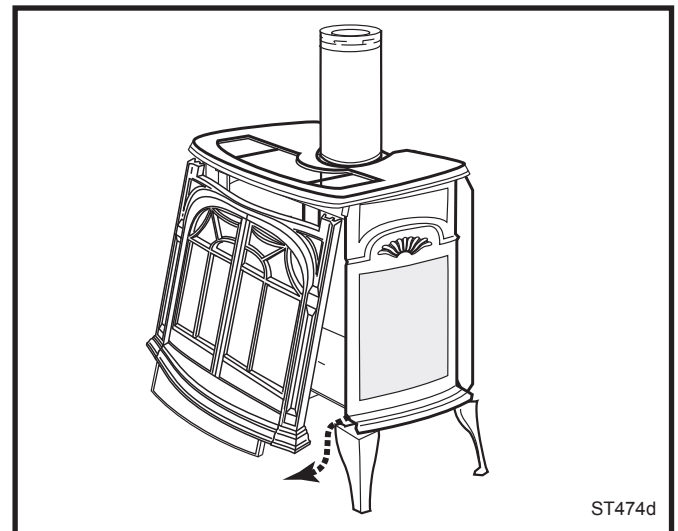

Fig. 35 Remove the Stove Front.
1. Remove stove front. Lift stove front up and then swing bottom out and away to disengage from the stove body. (Page 19, Fig. 35)
2. Lift the Stove Front up and then swing the bottom out to disengage it from the heater shell. (Fig. 35)
1. Remove the Front, Glass Frame and Glass Panel. (Figs. 35, 36) Remove the old gasket. Use a razor blade, with rounded corners, to separate the glass and gasket from the frame, and to clean the glass of any remaining cement or bits of gasket.